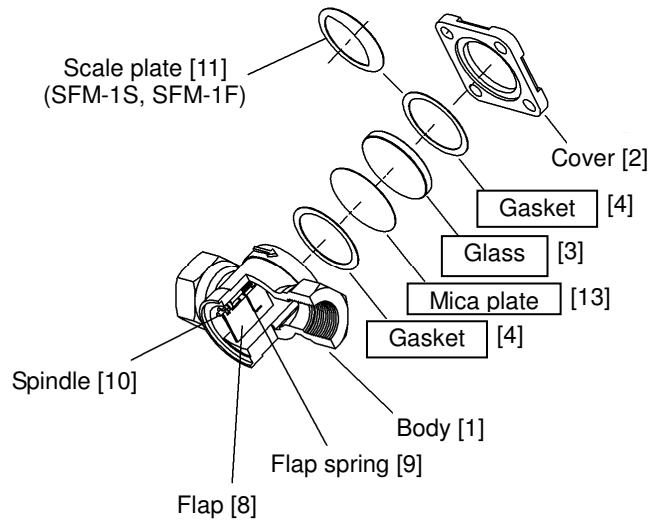

Figure 5
1. Attach the gaskets [4], mica plates [13], glasses [3], gaskets [4] (or scale plates [11] for SFM-1S and SFM-1F) and covers [2] in this order to the body [1]. (See Figure 5, Picture 7, and Picture 8)